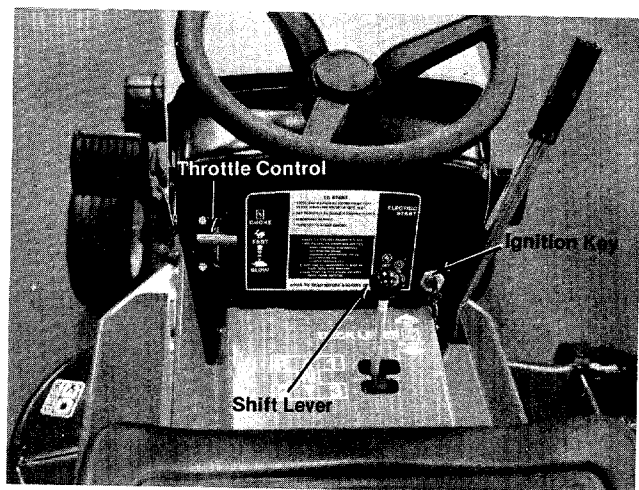

FIGURE 5. CONTROLS
# CONTROLS (See figure 5.)
The throttle control is used to regulate the engine speed and to activate the choke on the engine. To get maximum efficiency from cutting, the throttle should be in the FAST position when operating the mower. Pushing the throttle all the way forward, past FAST will choke the engine. See figure 5.
**Electric Model.** The key must be turned to the START position to start the engine. After the engine is running let the key return to the ON position. Remove the key when the mower is not in use. Turn the key to the OFF position to stop the engine. See figure 5.
See figures 5 and 8.
**Electric Start Model.** Turn the ignition key to the START position. As soon as the engine starts let the key return to the ON position. See figure 5. Slowly return the throttle to the running position as soon as the engine starts.